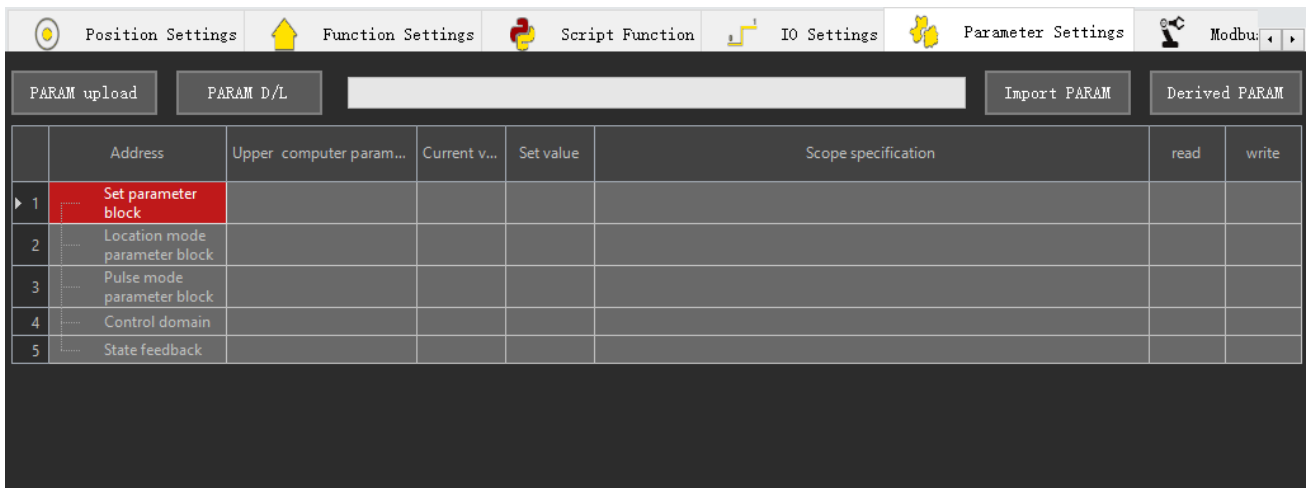

Figure 3-38
By clicking the parameter setting icon  **Parameter Settings**, users can read and write to the registers of the actuator. As shows in Figure 3-38.
2. By clicking on a device in the slave list, where (gripper module interface) users can access functions such as waypoint setting, function setting, parameter setting, Modbus tool, and gripper status. Figure 3-38 shows the gripper operation interface.